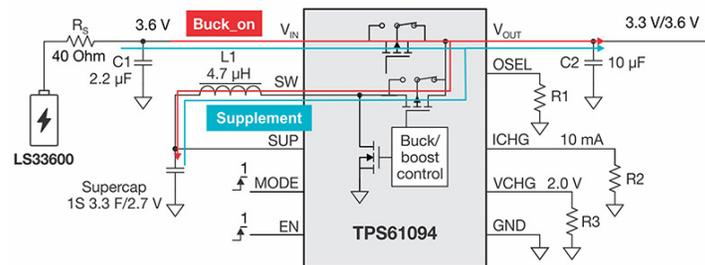
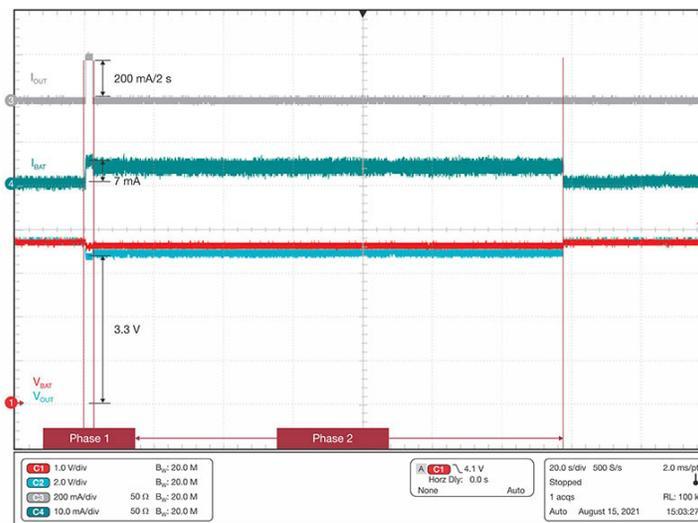
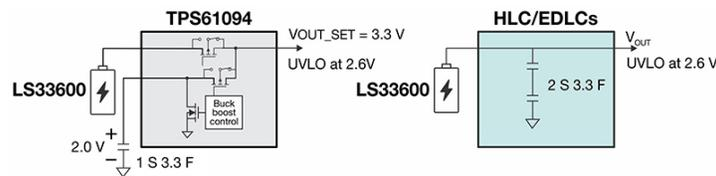

Figure 1. Configuration of the TPS61094
Figure 2. Oscilloscope Result of Battery Peak Current at Heavy Load
Figure 3. TPS61094 vs. HLC/EDLC Configuration
- **Limits the peak current drawn from the battery.** The TPS61094 can limit its peak input current when it is working in Buck_on mode when charging the supercapacitor, and also in supplement mode when it is supplying a heavy load on V_{OUT} with the battery. Figure 1 illustrates the configuration of the TPS61094, while Figure 2 shows the battery's peak current when there is a 200-mA and 2-s load pulse on V_{OUT} . In phase 1, where the load is heavy, the peak current is limited to 7 mA. After the load is released in phase 2, the device is charging the supercapacitor with a 10-mA constant current. When the supercapacitor voltage charges back to 2.0 V, the device stops charging but still stays in Buck_on mode.
Figure 3 shows a power-buffer solution using the TPS61094 or only supercapacitors, respectively. For the TPS61094 solution, the supercapacitor voltage is set to 2 V. By supplying a continuous load, the TPS61094 can draw power from the supercapacitor until 0.6 V. Therefore, it is possible to calculate the available energy on the supercapacitor with Equation 1:
Comparing results between Figure 2 and Figure 3, the TPS61094 solution has double the available energy of the HLC and EDLC solutions. This means more energy can be delivered to loads, and lowers the peak current drawn from the battery under extreme conditions. For example, if there is a 200-mA load at 3.3 V to drive a valve, an HLC or EDLC solution can only support the load for 2.8 s. The TPS61094 buck/boost converter with an integrated supercapacitor can support the load for as long as 7.8 s, assuming that the power buffer supplies all of the load.